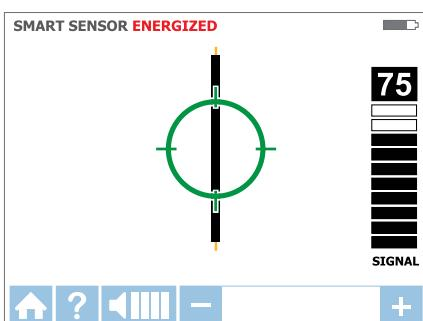

Figure 3.1e
5. Green target symbol indicates that the Receiver is directly over the wire (see Figure 3.1e). If Receiver will not lock on the wire, decrease sensitivity using the "--" on the keypad or set the transmitter to transmit at LOW signal mode.